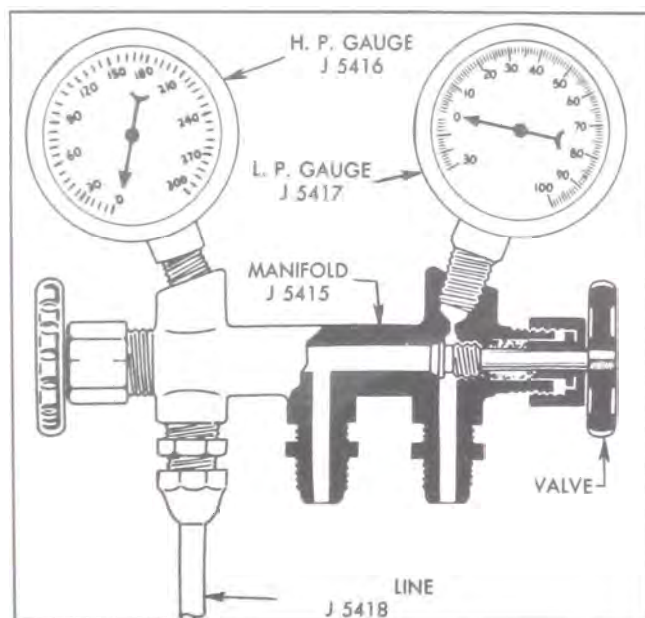

Figure 11-90—Pressure Gauge Set
2. Using adapters J-5420, connect charging lines of pressure gauge set and Manifold J-5415 to schrader valves with both valves of manifold closed. See Figure 11-90.